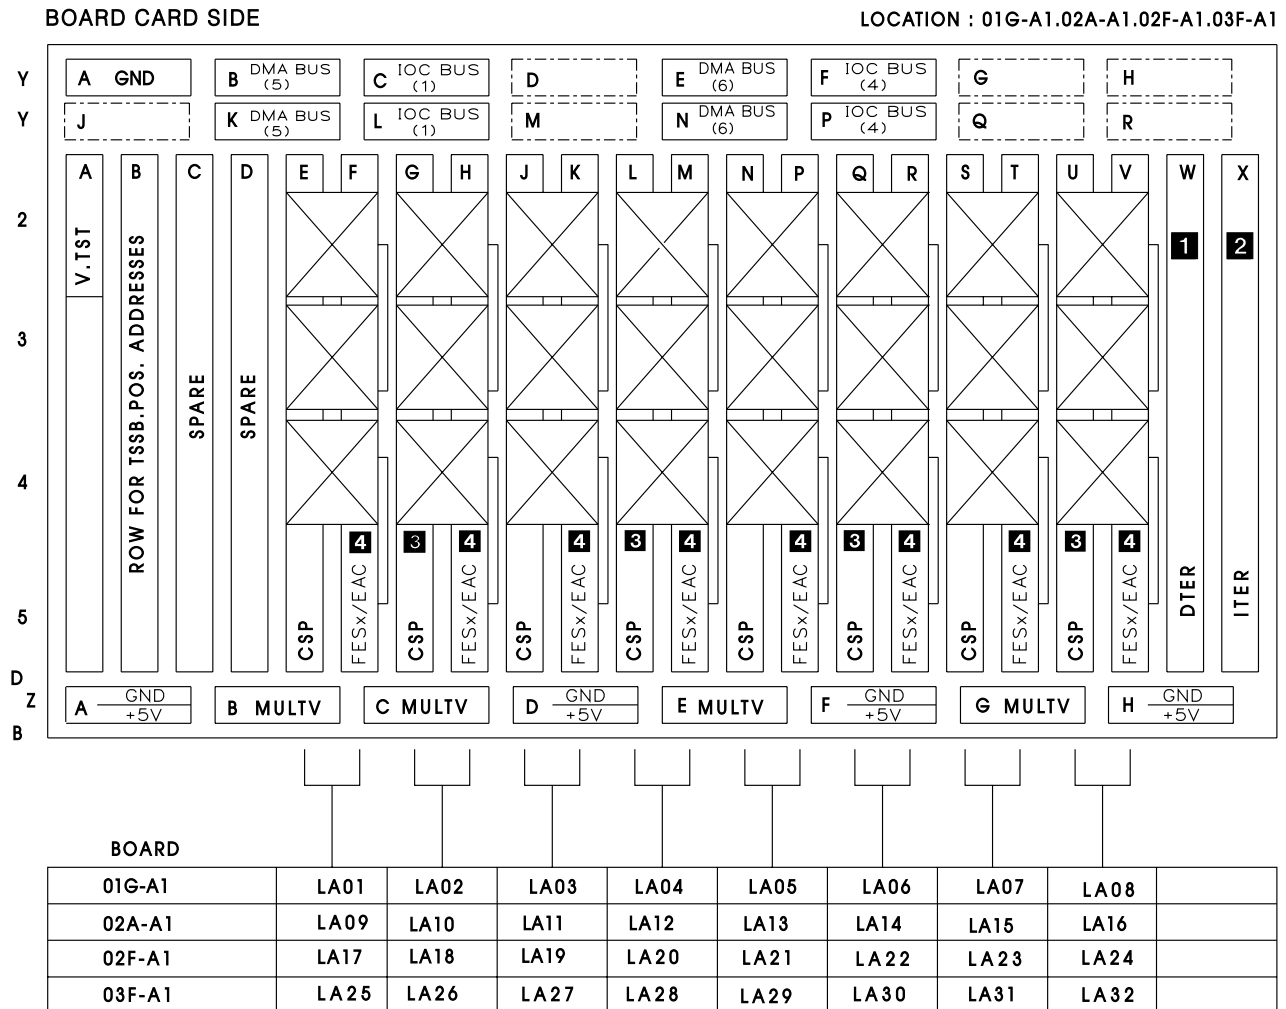
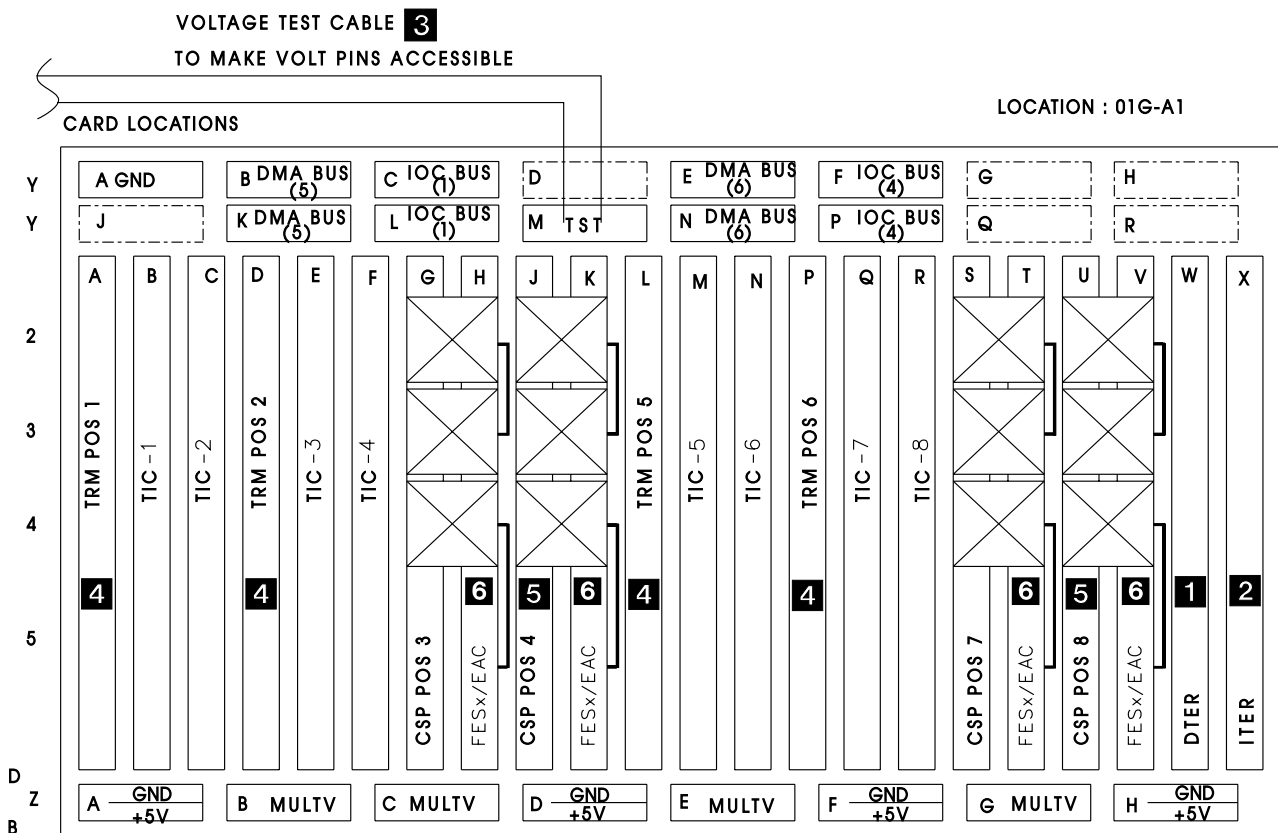

Figure 4-131. Line Adapter Board, Cards, and Crossovers (TSSB)
Figure 4-132. Line Adapter Board, Cards and Crossovers (TSST)
Refer to Figure 4-131 if dealing with a TSSB Board. Refer to Figure 4-132 on page 4-142 if dealing with a TSST Board.
- a. Refer to Figure 4-131 on page 4-141 and locate cables at:
Refer to Figure 4-131 on page 4-141 (for a TSSB) or to Figure 4-132 on page 4-142 (for a TSST) and do the following: